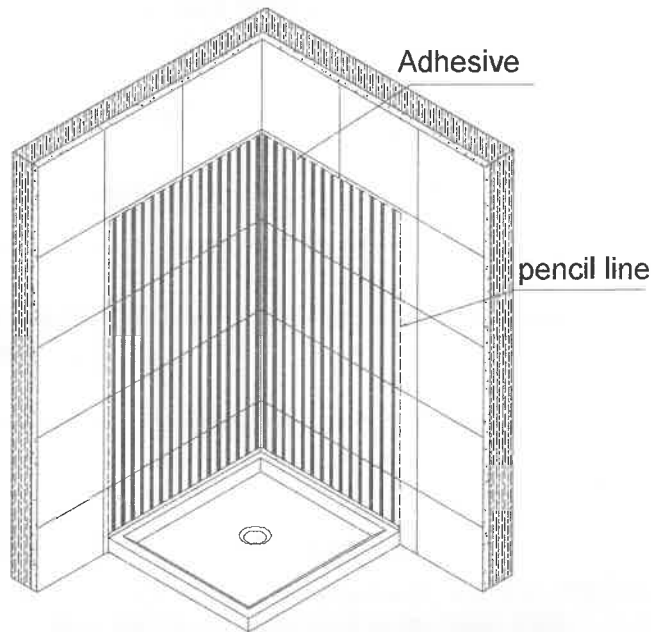

Fig6
6. Use the correct lining adhesive supplied to run beads of adhesive in the following pattern. Approximately 20mm in from the pencil line run a bead of adhesive. Continue then to infill with adhesive at about 100mm centers. Continue till the complete area where the wall liner fits is in-filled correctly. Fig6